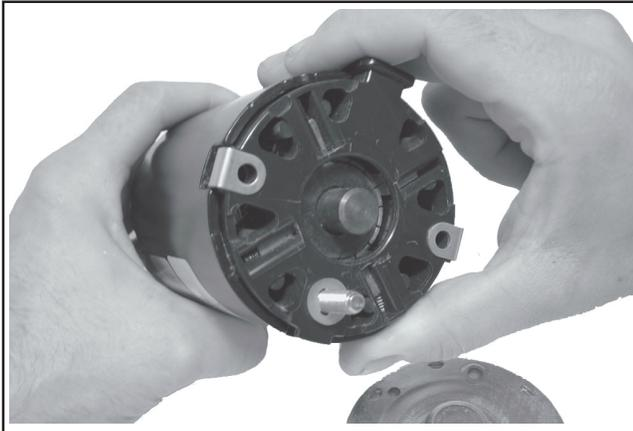

Figure 7-17. Removing Brush Carrier Assembly.
3. Remove the commutator end cap, then pull the brush carrier assembly out of the frame. See Figure 7-17.